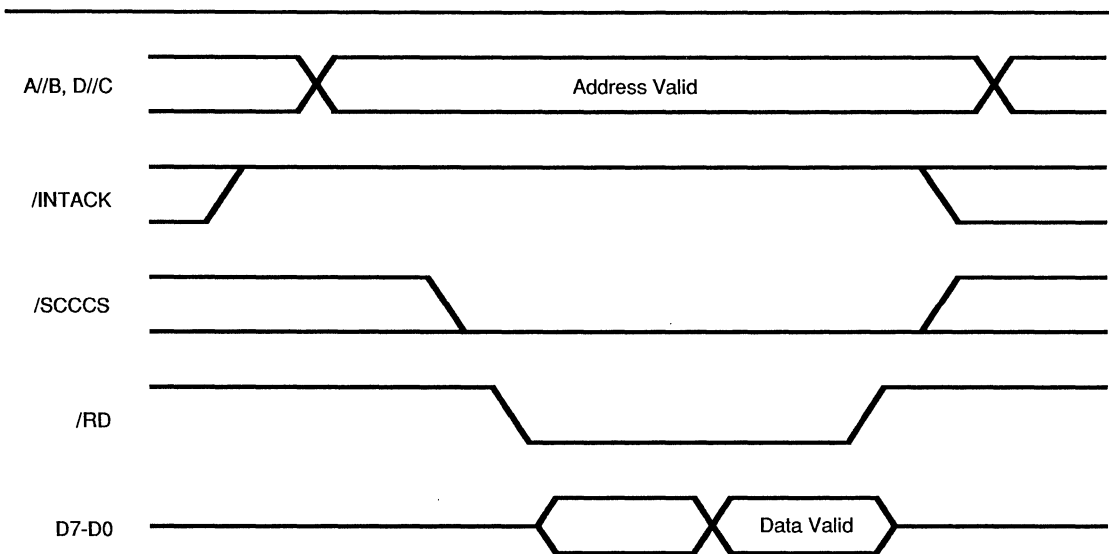

Figure 11. Read Cycle Timing
**Read Cycle Timing.** Figure 11 illustrates Read cycle timing. Addresses on  $A//B$  and  $D//C$  and the status on  $/INTACK$  must remain stable throughout the cycle. If  $/SCCCS$  falls after  $/RD$  falls or if it rises before  $/RD$  rises, the effective  $/RD$  is shortened.